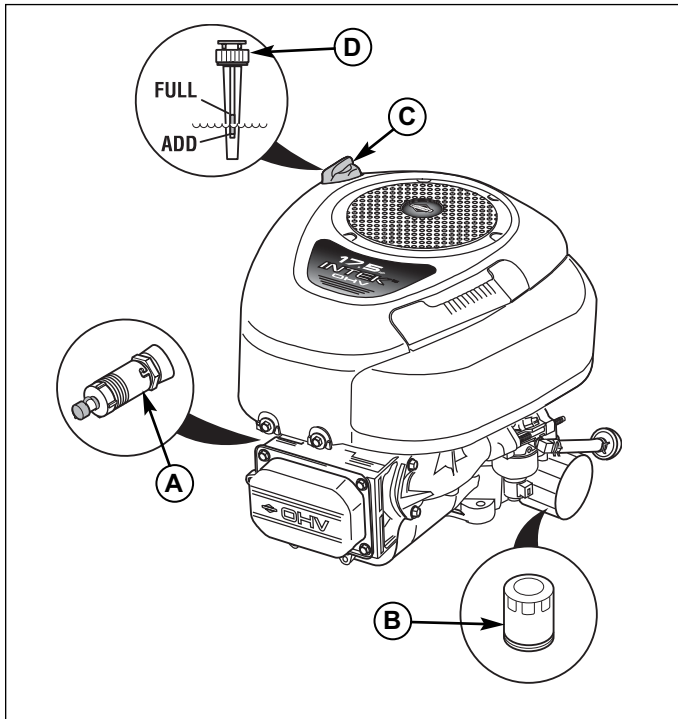
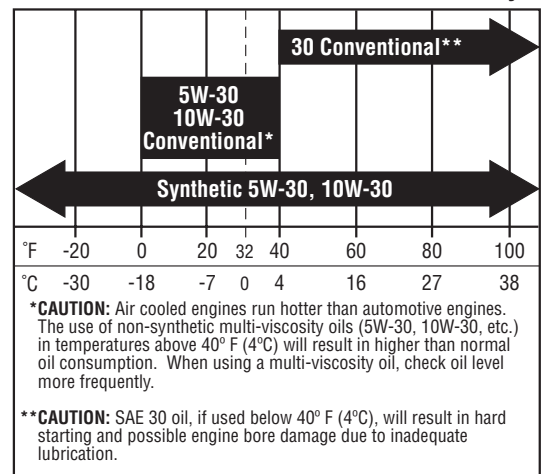
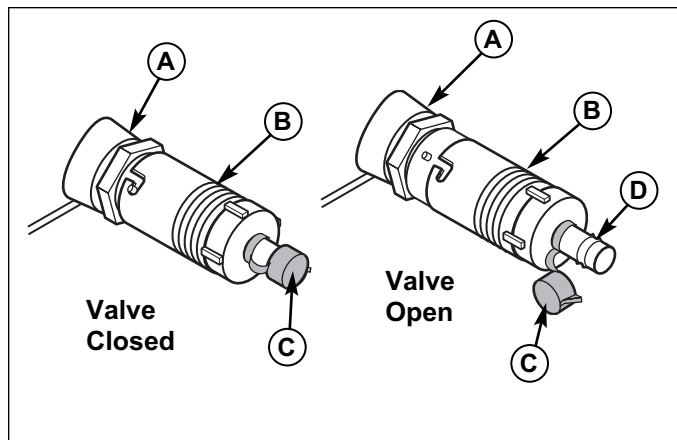

Figure 26. Single Cylinder Engine Models
Figure 28. Recommended Engine Oil
Figure 29. Oil Drain Valve
7. Position blades perpendicular to each other as shown in Figure 26. If not, perform "Check Mower Blade Timing" in this section.
2. Clean the area around the dipstick (C, Figure 26 or 27).
3. Remove the dipstick (C) and clean it with a paper towel.
4. Insert the dipstick (C) back into the engine. **Briggs & Stratton Models**, thread the cap back onto the tube.
5. Remove the dipstick and read the oil level. The oil level should be between the "FULL" and "ADD" marks (D). If not, add oil according to the "Recommended Engine Oil" chart (see Figure 28).
1. Place a suitable container with a 4 quart capacity under the oil drain valve (A, Figure 26 or 27).
2. Loosen or remove the dipstick (C).
3. Wipe oil drain valve (B, Figure 29) and cover (C) with paper towel or rag.
1. Clean the area around the dipstick (C, Figure 26 or 27) and oil drain valve (A).
3. Remove the oil filter (B). Discard the filter.